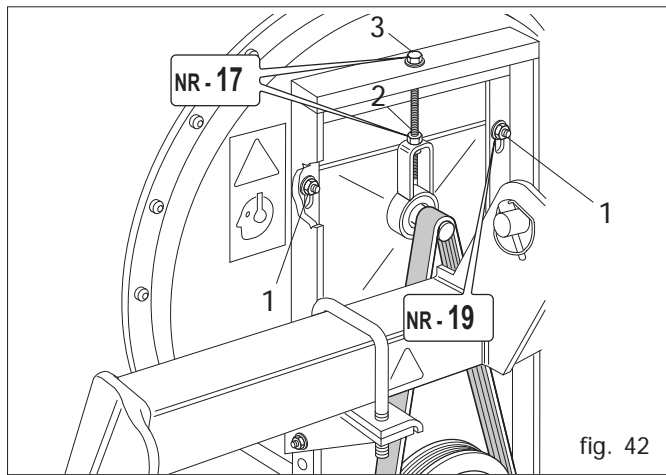

fig. 42
The aspirator (Fig. 42) creates a vacuum inside the distributors, so that the seeds are aspirated onto the holes in the plate. The tensioning and good condition of the belt are therefore of vital importance to ensure the good for the good operation of the aspirator and, hence, the success of the sowing.
- Loosen the 4 screws (1 Fig. 42)
- Loosen the nut (2 Fig. 42)
- Tension the belt by tightening the screws (3 Fig. 42).
- Check the fan-belt tension (Fig. 42).